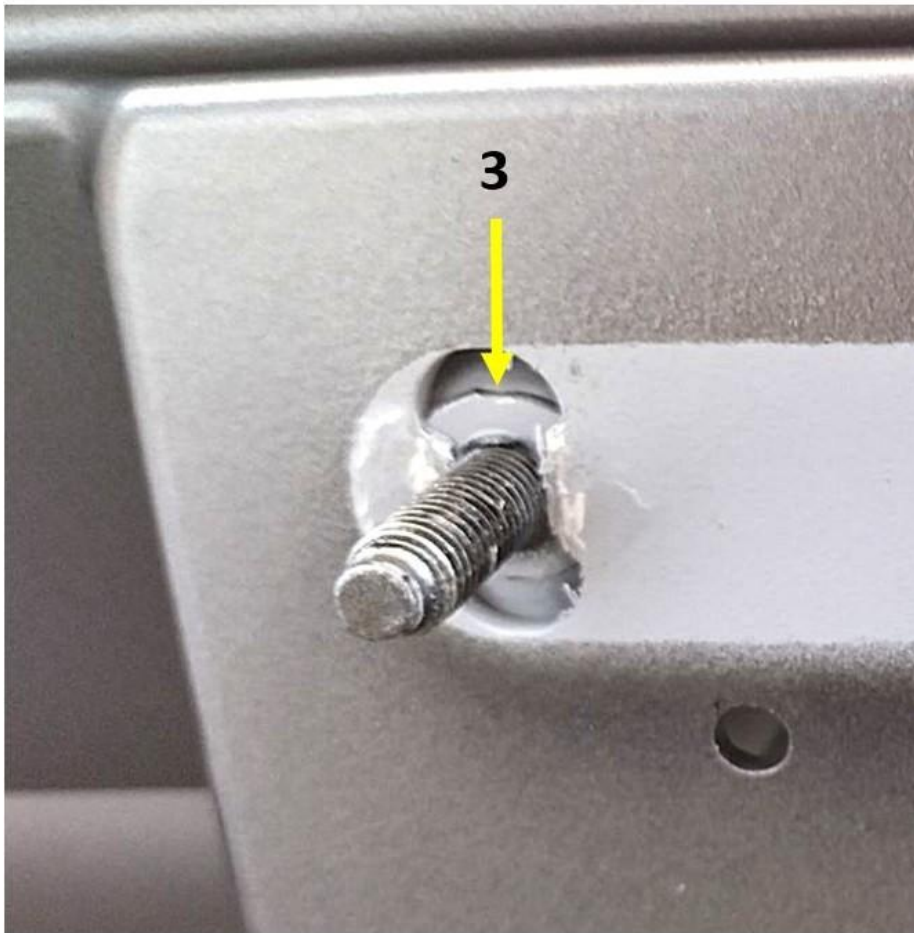

Figure 5
6. If the stud has pulled through the mounting structure -3- become detached or caused significant damage to the reinforcement plate or surrounding rear lid substrate as shown in figure 5, this condition is not suitable for a containment shim or resin filler repair.
Do not apply resin filler or install a containment shim where significant structural damage is present as shown in figure 5.
- If structural damage is identified, as shown in Figure 5, the vehicle should be classified as Condition D. Submit a comprehensive Technical DISS query and attach clear photographic evidence of the affected area. For rework instructions and further actions, await guidance from Product Support via DISS. **Refer to Condition D - Reinforcement Bracket Repair.**